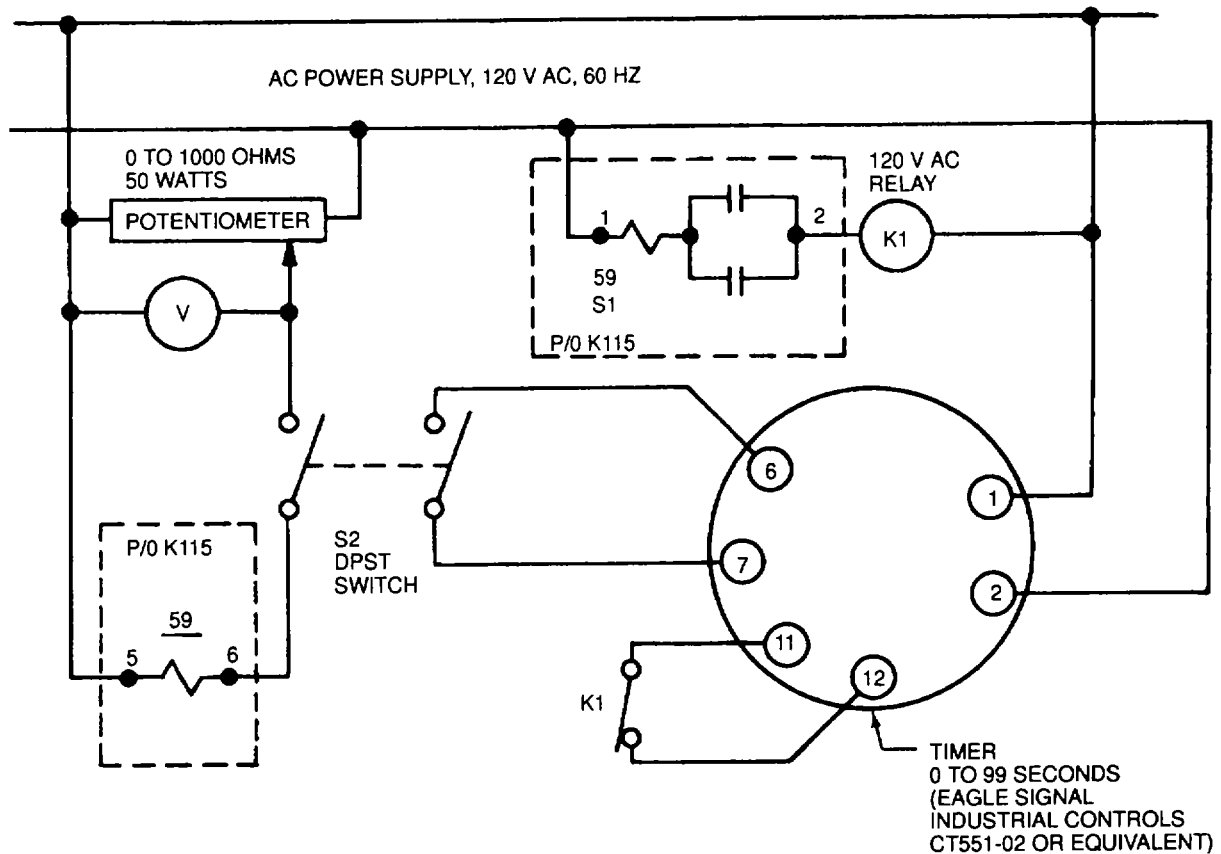

Figure 5-33. Test Setup, Ground Fault Relay K115
- c. Test. See Figure 5-33.
- (1) Pick up voltage test.
- (2) Time voltage test.
- (a) With switch open, apply 120 V ac power as in step (1), above.